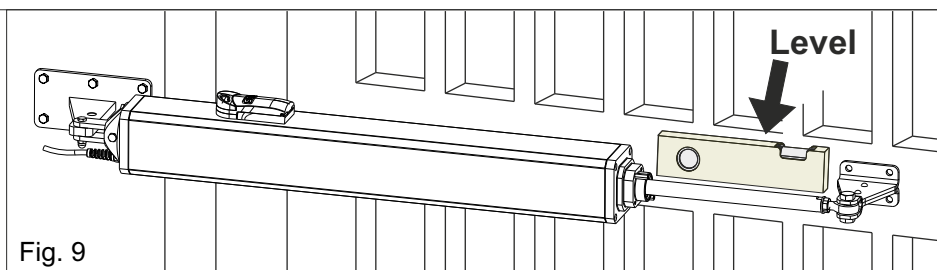

Fig. 9
- For a proper operation, it is important to place as the operator as the front and rear brackets in a perfectly horizontal position with the help of a level, as shown in Fig. 9